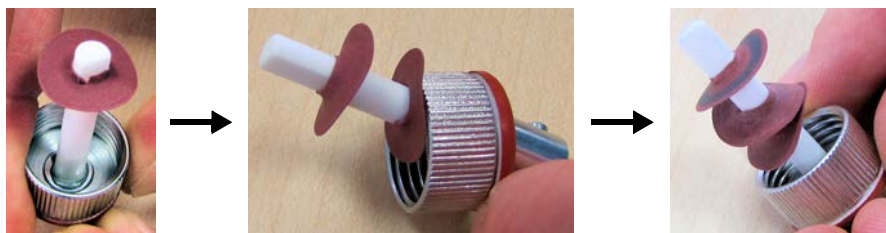

Figure 9-29. Arranging three fluorocarbon seals properly upon plunger
5. Arrange the first fluorocarbon seal properly upon the plunger as shown in Figure 9-29:
6. Arrange the second fluorocarbon seal properly upon the plunger (directly with lip side **first**). See Figure 9-29.
7. Arrange the third fluorocarbon seal properly upon the plunger (directly with lip side **last**). See Figure 9-29.